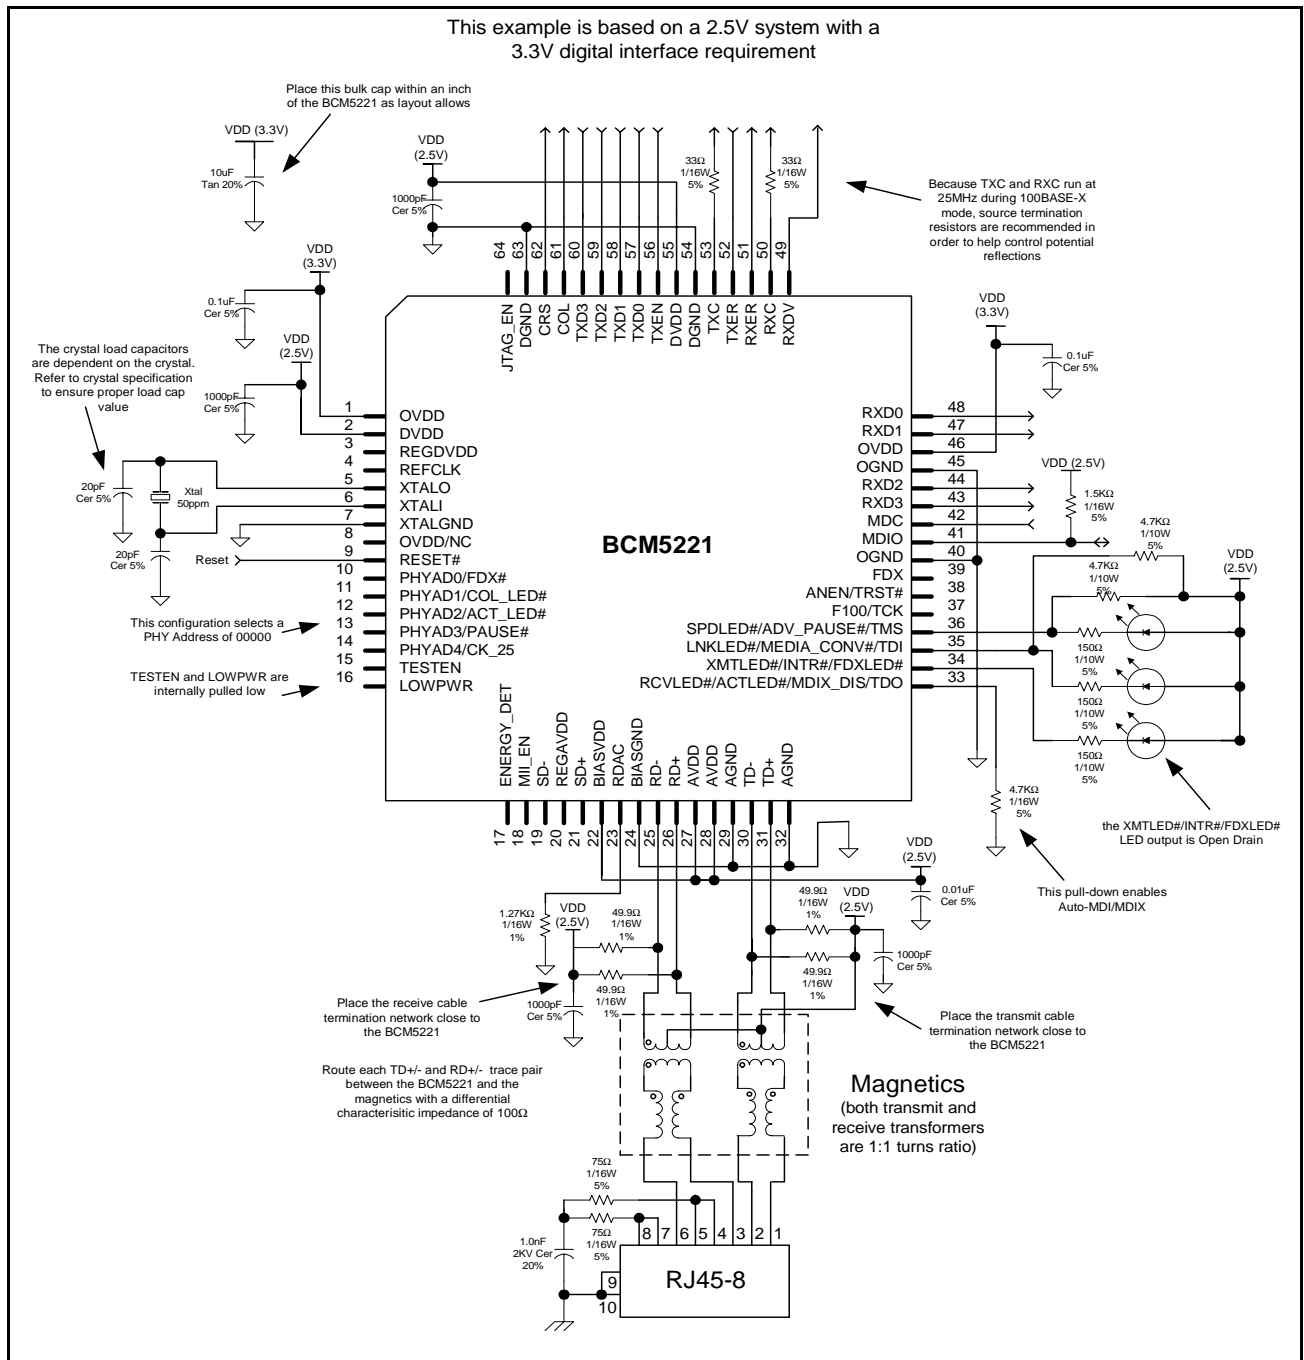

Figure 9: BCM5221 Typical Twisted pair Connection (MII to MDI)
Figure 9 on page 16 represents a typical 10/100 twisted pair DTE implementations, MII to MDI inclusive, for the BCM5221. This example assumes the use of 2.5V VDD for the system, with the digital interface running at 3.3V.
When routing the transmit and receive pairs between magnetics and the RJ45-8, it is recommended that an inner layer or layers be used. The outer layers (top and bottom) can then be dedicated to chassis ground in the area between the magnetics and the RJ45-8. This will help isolate the sensitive analog signals from external noise sources, as well as help reduce EMI emissions. See Figure 9 on page 16.
**Chassis Ground.** When planning the placement of chassis ground in the layout, it is always beneficial to consider placing at least two component pads (1206 size) across the void between chassis ground and system ground (see Figure 9 on page 16). These component pads may be stuffed with a variety of components to reduce EMI emissions. Installing 0Ω resistors, high R value resistors, capacitors, or leaving these pads unpopulated are options to be considered. These options can provide substantial flexibility when attempting to control EMI emissions.